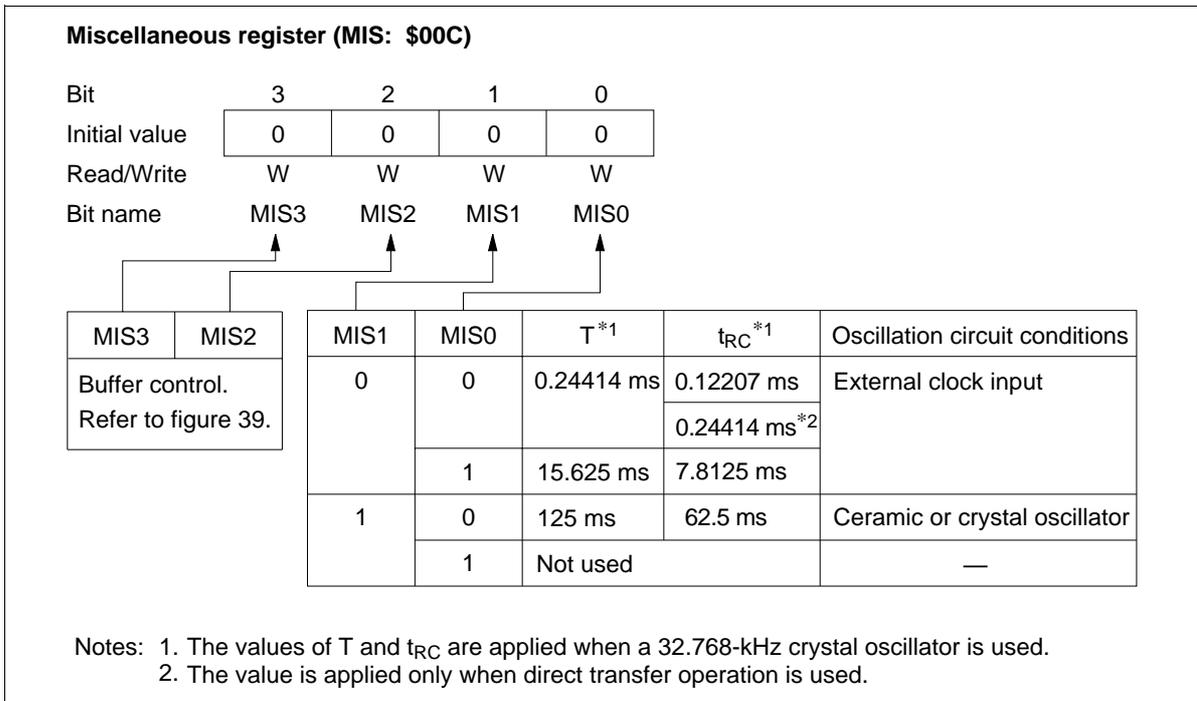

Figure 18 Miscellaneous Register (MIS)
Interrupt Frame: In watch and subactive modes, ϕ_{CLK} is applied to timer A and the \overline{INT}_0 and $\overline{WU}_0\text{--}\overline{WU}_7$ circuits. Prescaler W and timer A operate as the time-base and generate the timing clock for the interrupt frame. Three interrupt frame lengths (T) can be selected by setting the miscellaneous register (MIS: \$00C) (figure 18).